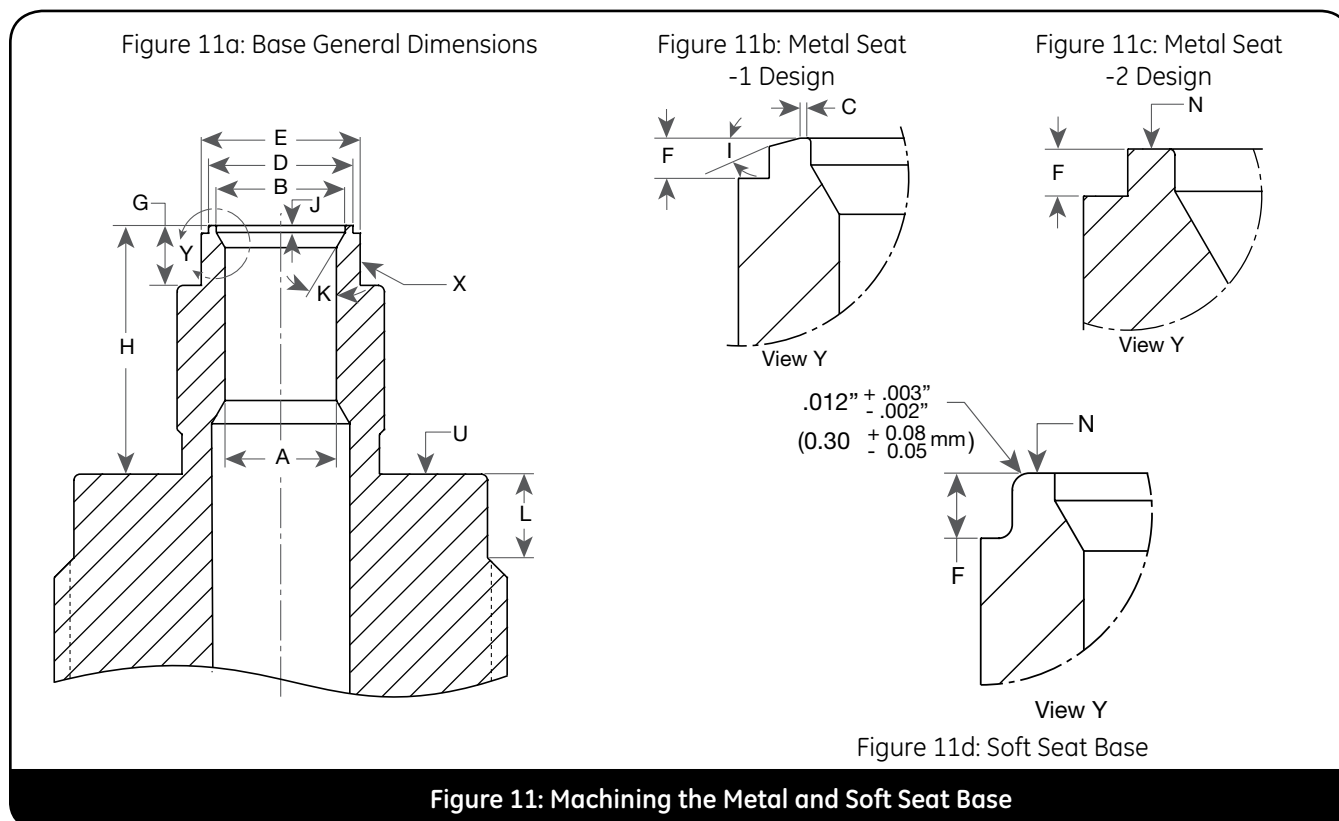

Figure 11: Machining the Metal and Soft Seat Base
The -2 metal seat design is a flat seat design. The base seat may be lapped or machined if necessary to verify that the seat ("N" of Figure 11) is free from indentions, scratches, high spots, etc.
1. When the base seat cannot be repaired by lapping, it can be machined as shown in Figure 11, using the dimensions provided in Tables 3 to 5.